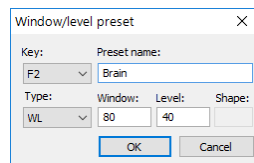

Figure 159 – Window/level preset dialog – defining a new preset
3. The **Window/level preset** dialog is then displayed. The initial values for the window, level shape and palette graduation type (even if not displayed) are the same as the current window/level settings in the current view (see Figure 159).